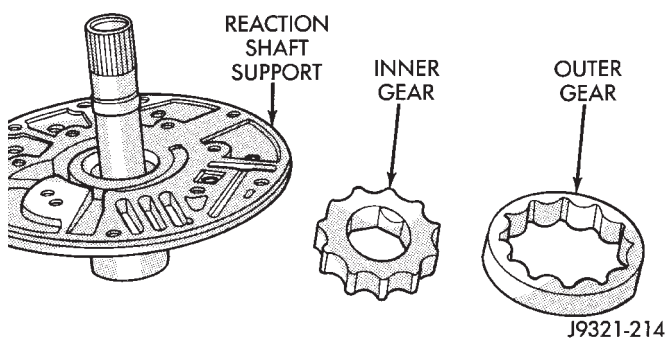
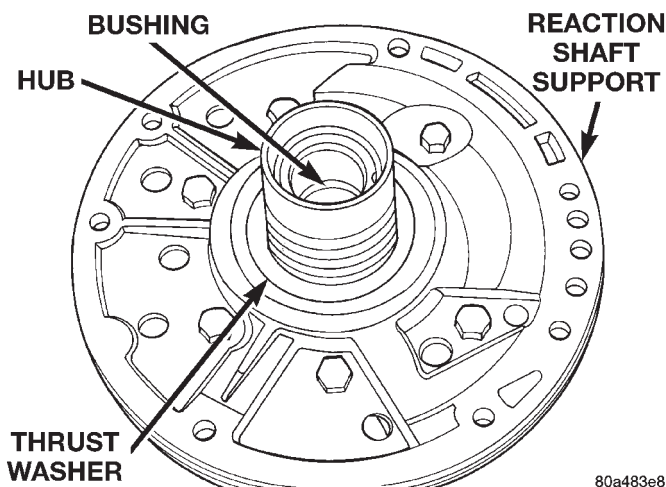

Fig. 121 Pump Gear Removal
Fig. 122 Support Hub Thrust Washer
(5) Remove inner and outer gears from reaction shaft support (Fig. 121).
(6) If pump seal was not removed during transmission disassembly, remove seal with punch and hammer.
(7) Remove front clutch thrust washer from support hub (Fig. 122).